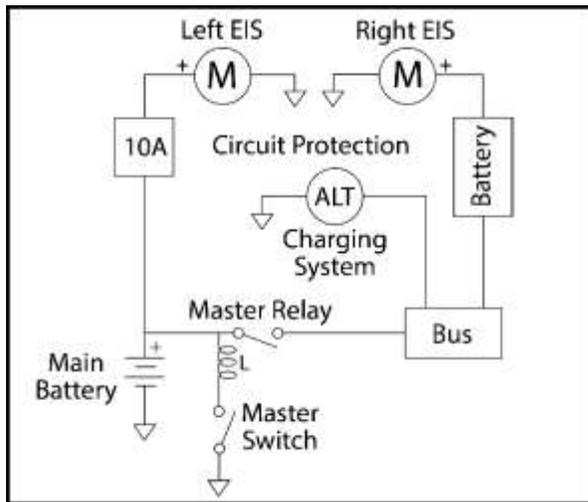
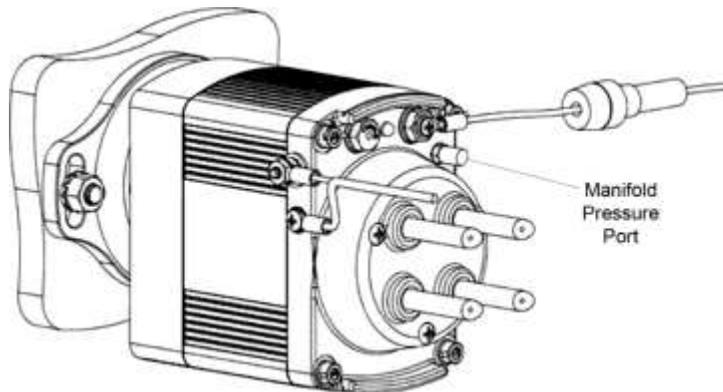

Figure 7: Normal EIS Installation
Figure 9: Typical 66K4A Installation and Terminal Attachment
8. Connect the ring terminals per the circuit diagram in Figures 7 or 8 as illustrated in Figure 9.
- Ensure the manifold pressure port (Figure 9) is not obstructed and open to atmospheric pressure.